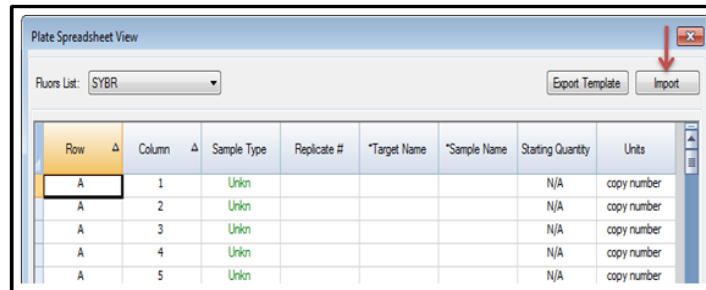

Figure 27: Importing the spreadsheet
5.6. In the next window click on ‘Import’ as shown in Figure 27.